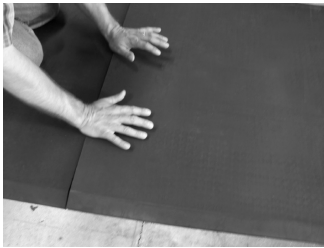

Fig 6
5. Drop it in place so the tubular cells of the second section fit into the connector holes on the tabs of the first section. Use a repeated 'patting' motion with the palms of your hands to seat the cells into the connector holes until the adjacent section surfaces are flush with each other. Repeat this process proceeding down the runner length until the entire runner is connected. (Figures 6 & 7)